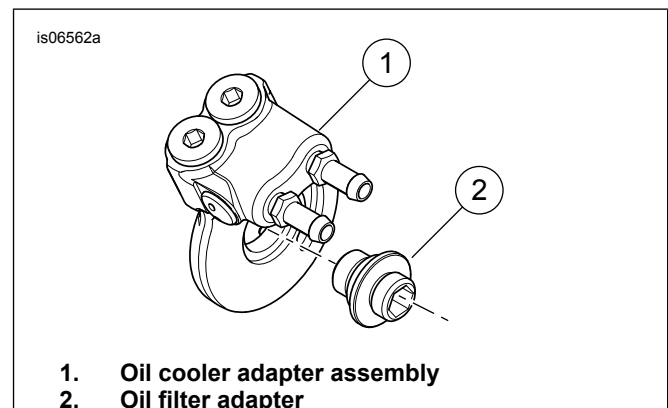

Figure 3. Install Oil Cooler Adapter Assembly
2. See Figure 3. Install the oil filter adapter assembly (1) and oil filter adapter (2). The oil adapter assembly flanges should be aligned so they are installed into the oil adapter gasket cutout as shown.